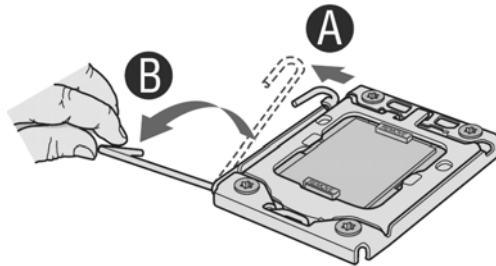

Figure 12. Opening the Processor Socket Lever
5. Locate the processor socket, push the lever handle down and away from the socket to release it (Step “A” in Figure 12), rotate the lever open all the way (Step “B” in Figure 12).